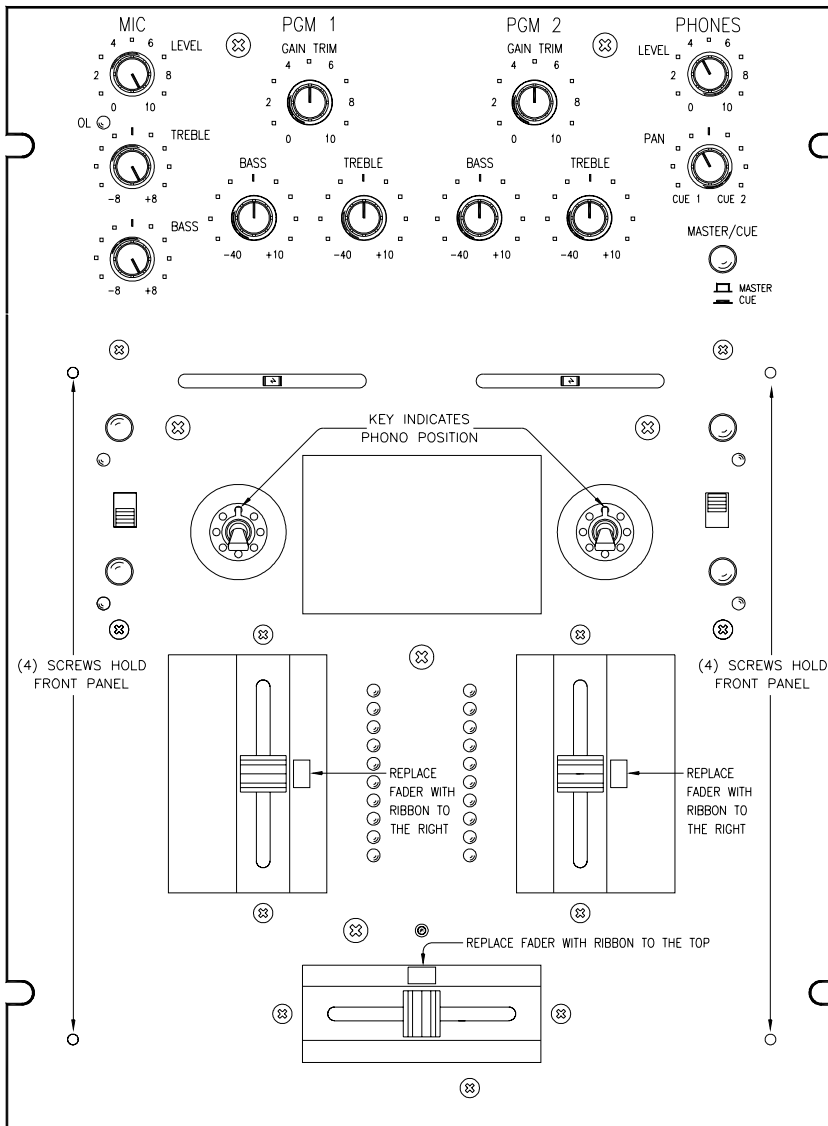

Figure 4. Phono/Line switch rotation or replacement
- ③ **BALANCE** controls are used for **LEFT/RIGHT** balance of **PGM 1** and **PGM 2** or for **LEFT/RIGHT** Pan effect. Push the control to the left and sound moves to the left channel. Push the control to the right and sound moves to the right channel.
- ④ **PHONO / LINE** source select switches are provided for **PGM 1** and **PGM 2**. These are “clickless” switches suitable for “transform scratch” applications. The switches are field replaceable and may be rotated in 45° increments. *See Figure 4 on page Manual-6 for rotation and replacement instructions.*
- ⑤ **HAMSTER** switches are provided for **PGM 1** and **PGM 2 Program Faders**. These switches reverse the operation of the adjacent **Program Fader**. When engaged, signal is *off* with the **Program Fader up**, and *maximum* with the **Program Fader down**.
- ⑥ **Program Fader** controls for **PGM 1** and **PGM 2** are ultra low noise, long-life, monorail devices. An *ActiveFader™* design completely isolates the control element from the audio, providing the highest reliability and performance. *See page Manual-6 for cleaning and replacement instructions.*
- ⑦ **PGM 1** and **PGM 2 Meters** provide true L+R Dual Mono indication of **Post-Program Fader** signal levels. Ten segment resolution is provided with a one second peak hold indication. With the Program Fader set to maximum, the input **GAIN TRIM** should be set to indicate an average level of about +4.
- ⑧ **Crossfader** control is implemented using Ranes' proprietary *ActiveFader™* design. As with the **Program Faders**, all audio is isolated from the control element, greatly extending the life and performance of the control. *See page Manual-6 for cleaning and replacement instructions*